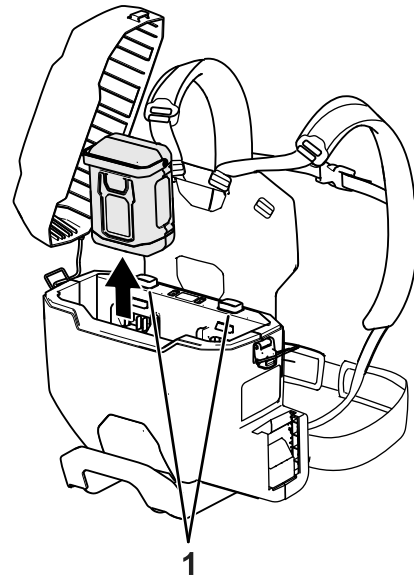

Figure 14
3. Press down on the battery latch button and lift the battery (or batteries) up out of the backpack (Figure 14).